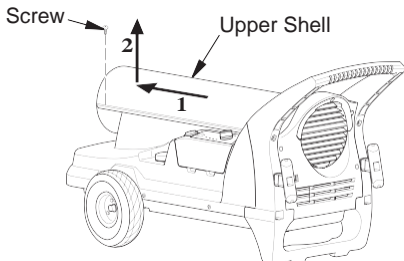

Figure 7 - Upper Shell Removal
1. Remove screws along each side of heater using phillips screwdriver. These screws attach upper and lower shells together. See Figure 7.
1. Remove upper shell (see Figure 7).